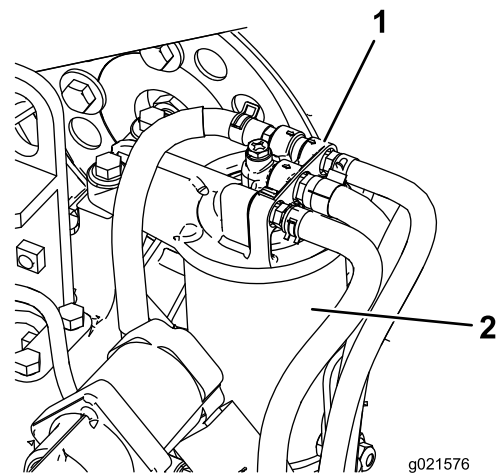

Figure 75
1. Clean the area around the fuel filter head (Figure 75).
2. Remove the filter and clean the filter head mounting surface (Figure 75).